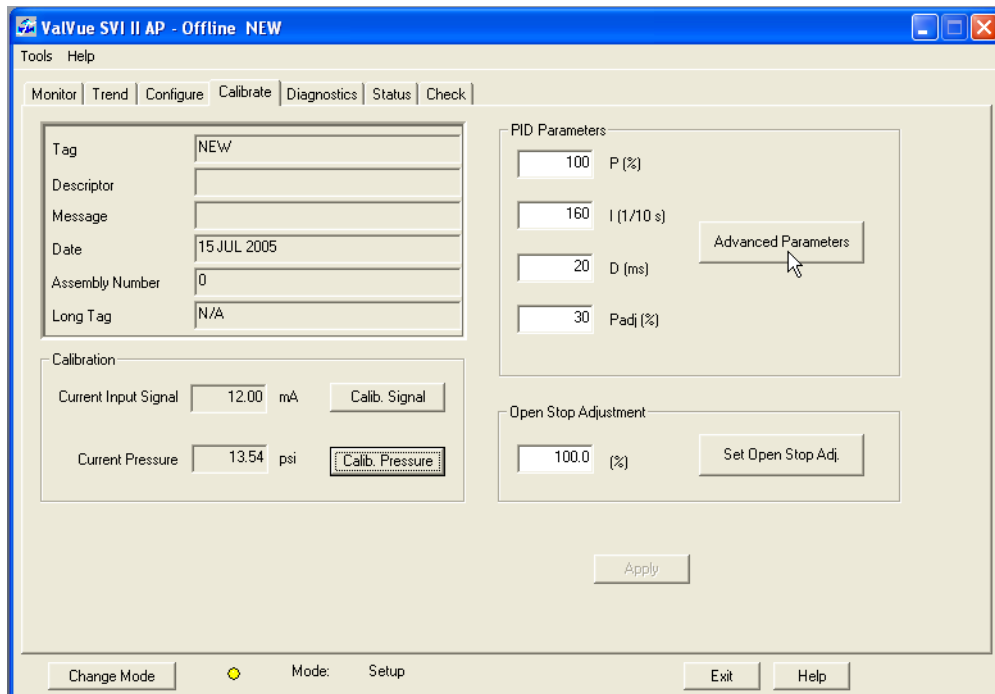

Figure 105 Starting Advanced Parameters
1. Click **Advanced Parameters** (Figure 105).